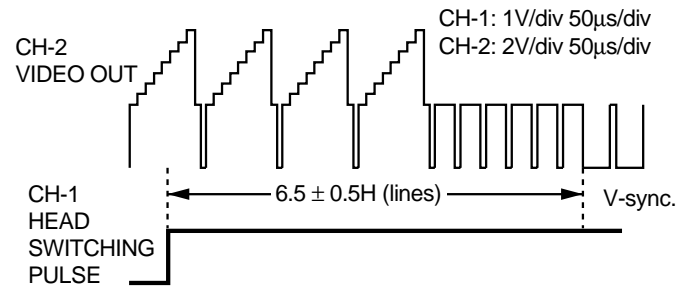

Figure 5-2.
5. Make this checking of waveform on the oscilloscope screen be as shown in Figure 5-2. just after the head switching point have been adjusted.